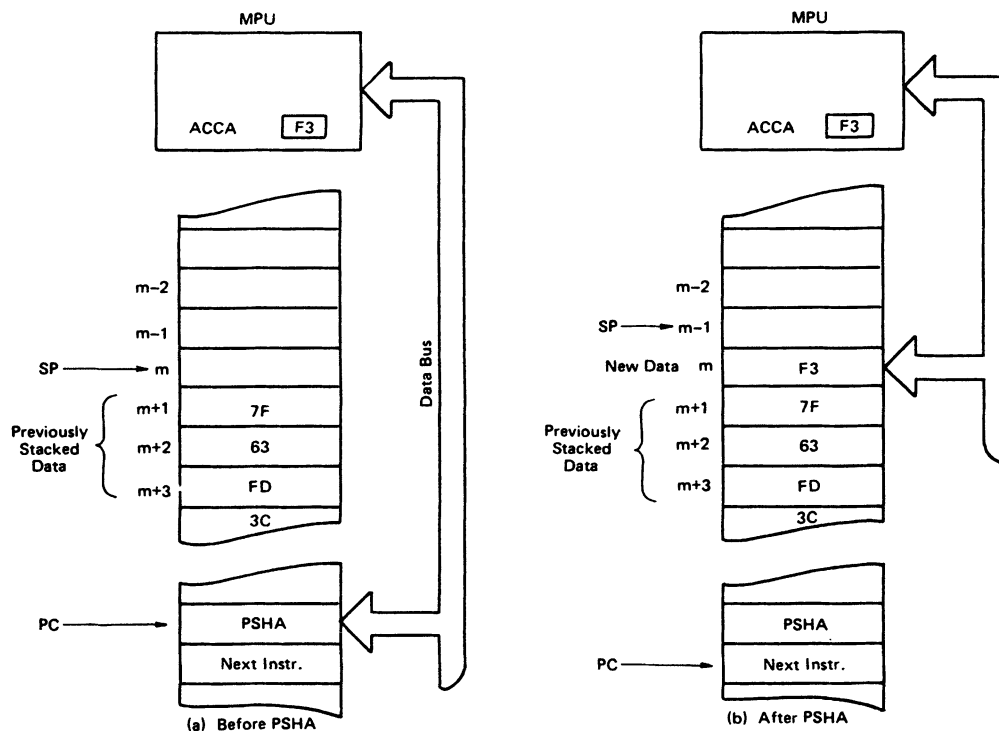

Fig. 5.5 Stack operation (Push instruction).
Look at Figure 5.5. A PSHA instruction is about to be executed. The program counter (PC) points to the PSHA instruction. Accumulator A contains an F3. The stack pointer (SP) points to the next free slot in the stack, which is called 'm'. This 'm' might be \$100, for instance. (Think